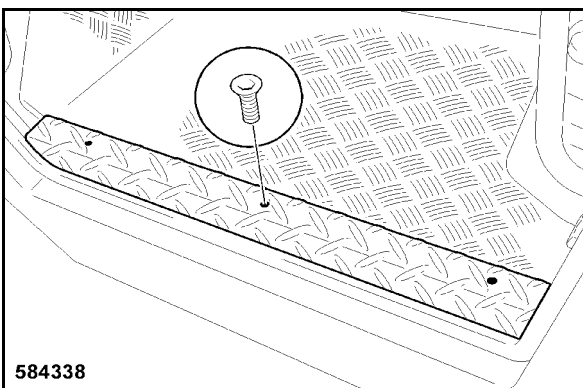

Fig. 223
- Attach the step plate 1 (Fig. 223) and tighten the three fastening screws (2).